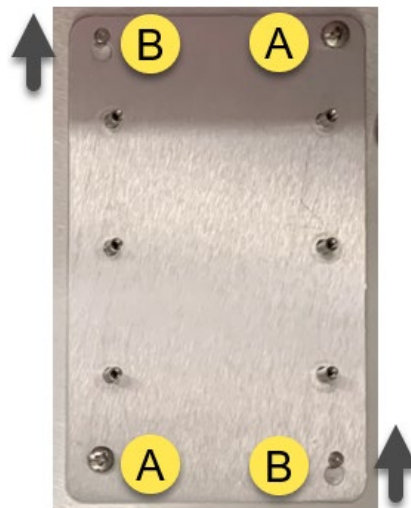

Figure 11 Mounting Detail with Board Assembly Removed
For the Mounting Detail (see Figure 11 page 26), the board assembly has been removed. When installing or removing any assembly, first remove any cables attached to the assembly. Next remove the two screws (A) securing the assembly to the backplate. Then, slide upwards the assembly slightly to disengage it from the keyholes (B), and finally pull the assembly towards you to remove it from the backplate.